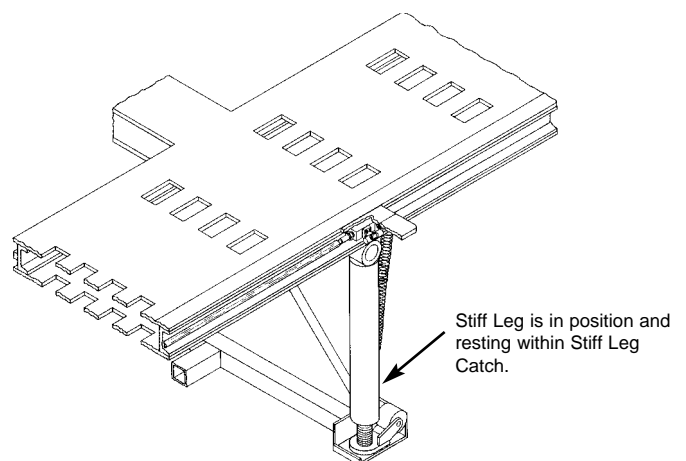

Figure 20
3. Press 'up' button on remote control switch to lift machine until stiff legs are in upright position. Then press 'down' button to lower stiff legs into their respective stiff leg catch. (See Figure 20.)